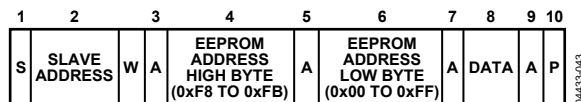

Figure 46. Single Byte Write to the EEPROM
- To write a single byte of data to the EEPROM. In this case, the command byte is the high byte of EEPROM Address 0xF8 to EEPROM Address 0xFB. The first data byte is the low byte of the EEPROM address, and the second data byte is the actual data, as shown in Figure 46.